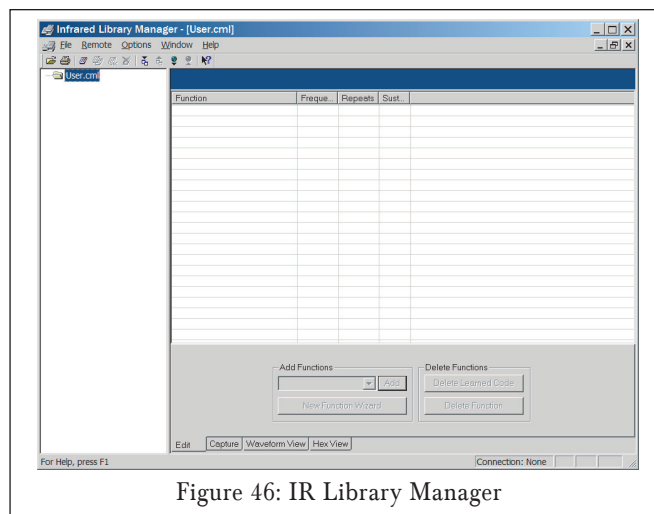

Figure 46: IR Library Manager
1. Open the Sonance Control Manager, open the LIBRARY menu and select IR LIBRARY MANAGER. The IR LIBRARY MANGER (Figure 46) window will open.
1. Open Sonance Control Manager and open the LIBRARY menu. Select IR LIBRARY MANAGER. The IR LIBRARY MANAGER window (*Figure 46*, on page 35) will open.